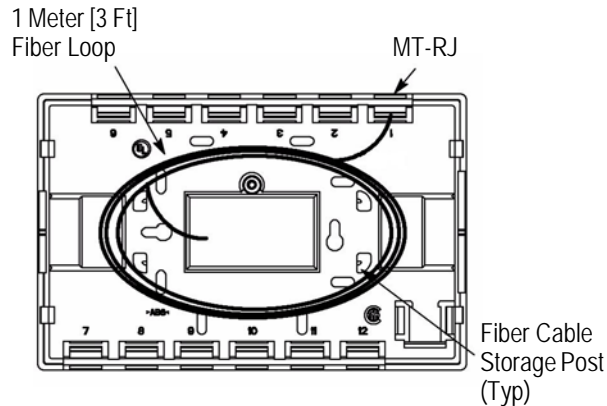

Figure 4
B. MT-RJ Fiber Installation (See Figure 4)
D. Wire Dress (See Figure 4)